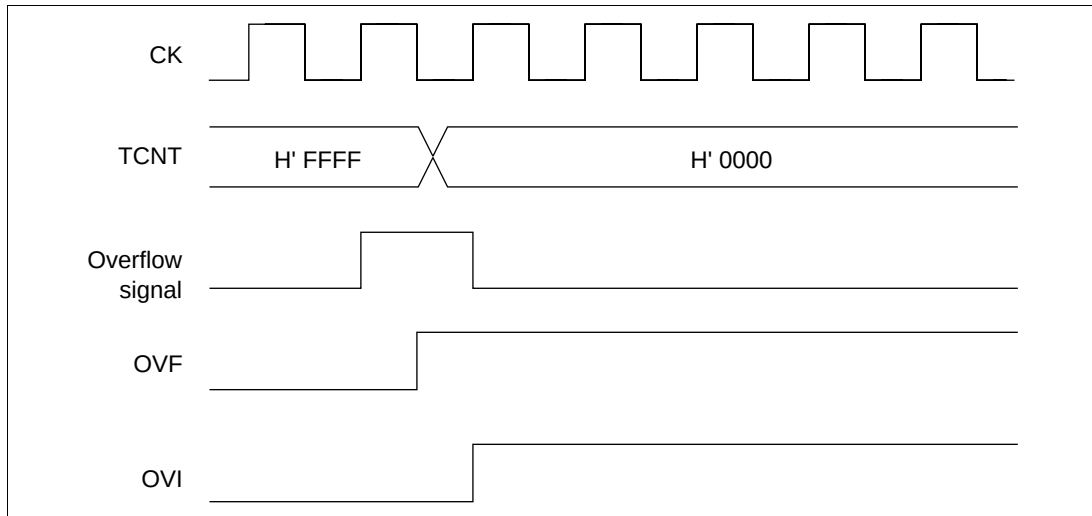

**Figure 10.56 Timing of Setting OVF**
**Timing of Setting Overflow Flag (OVF):** OVF is set to 1 when TCNT overflows from H'FFFF to H'0000 or underflows from H'0000 to H'FFFF. Figure 10.56 shows the timing.